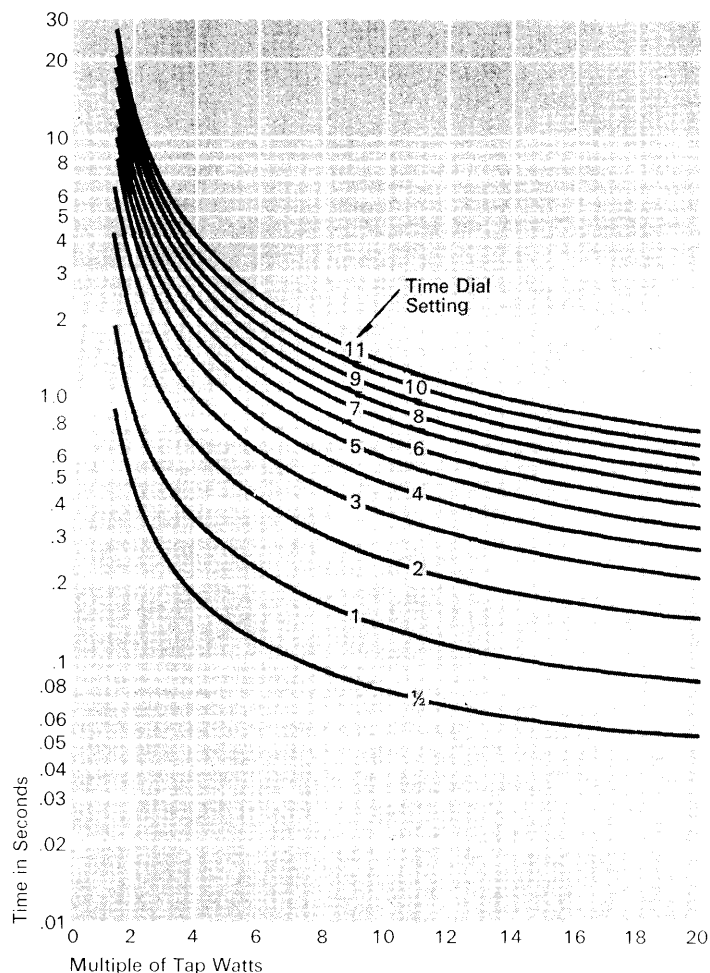

Figure 1
This relay operates on single-phase watts. The power to operate it equals the primary single-phase power divided by the current and potential transformer ratios. This relay power, expressed as multiples of the selected tap watts, locates a point on the abscissa of the time-power curves (Figures 1 and 2). The relay operating time for various time dial settings can be then observed on the ordinate.
Referring to Figure 1, a time dial setting of #2 yields an operating time of 0.43 second.
Figure 1 shows an operating time of 0.52 seconds on the #2 dial setting.
Time settings from indexed positions #1/2 to #11 provide variable operating time values as shown on the time-power curves, Figures 1 and 2.
2. Setting of the time dial for the required time of operation as shown on the time-power curves, Figures 1 and 2.